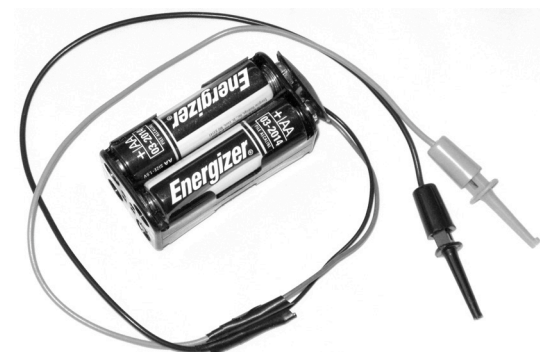

Fig. 2—3-V (nominal) supply
- A 3-V (nominal) battery supply (Fig. 2).